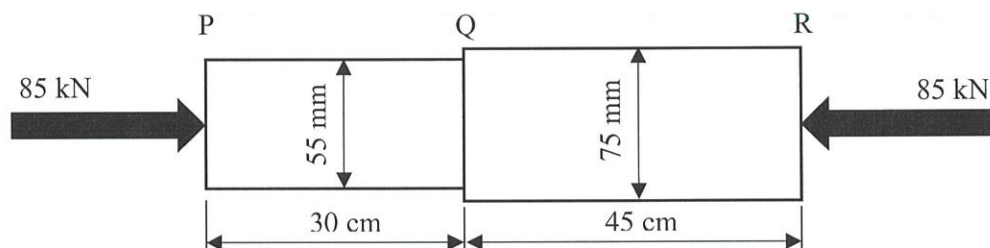

Figure 1(b) / Rajah 1(b)
- (b) A composite bar, consisting of Aluminium at PQ and Copper at QR are subjected to compressive load of 85 kN as illustrated in Figure 1(b). If PQ bar has diameter of 55 mm and QR bar has diameter of 75 mm, calculate;
- CLO1 (c) A composite parallel bar is made of **TWO (2)** bars, that are bronze and copper with an initial temperature of 25 °C as shown in Figure 1(c) below. The copper diameter is 50 mm and 85 mm for bronze. The bar was rigidly fixed at both ends. Calculate the stress in each bar when the temperature is risen to 75 °C;